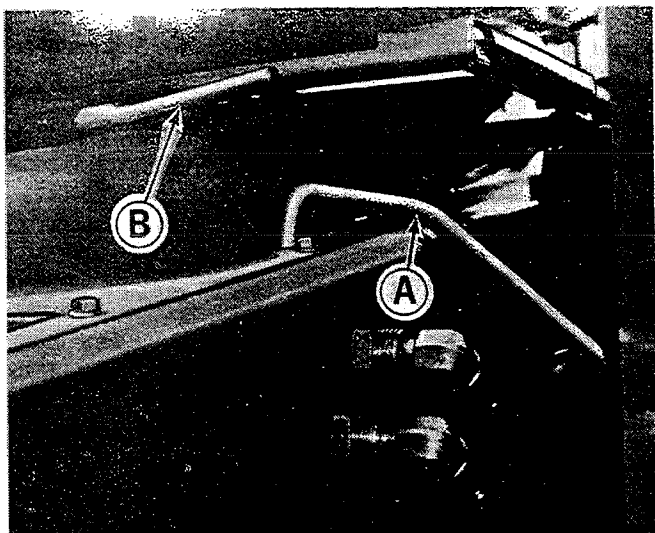

Figure 3. Transmission shift lever and optional seat adjustment as seen from above tractor seat.
(Figure 3, item A) The 3-speed transmission shift lever is used to select neutral or first, second or third speed range in the gear transmission. The transmission is in **NEUTRAL** when the transmission shift lever is free to slide forward and rearward about 1-1/2 inches. To place the transmission in **FIRST** gear, pull the shift lever forward all the way and then push down. The transmission is in **SECOND** gear when the shift lever is pulled all the way forward and then pulled up. **THIRD** gear is located by pushing the transmission shift lever all the way to the rear and then pushing down. To shift the transmission into or out of any gear, place the hydrostatic transmission control lever in the **NEUTRAL** position. It is not necessary and not advised to disengage the clutch. The clutch pedal should be released (clutch pedal out) to aid in meshing the gears. When shifting from **NEUTRAL** into gear, it may be necessary to move the hydrostatic control lever forward from the **NEUTRAL** position slightly (about 1/4 inch) to rotate the gears in the transmission so they mesh. As a safety precaution it is advisable to have the engine running at a slow idle when shifting the gear transmission. The table below shows the approximate speed ranges which can be obtained in each of the three gears.
**SEAT ADJUSTING LEVER:** (Figure 3, item B) The seat adjusting lever is used to adjust the front to rear position of the spring mounted seat. The seat position can be adjusted while sitting on it by moving the seat adjustment lever to the left and sliding the seat forward or back as desired. The seat can be locked in several positions over the four-inch adjustment range. To lock the seat in position, simply release the adjustment lever. For instructions on adjusting the position of the standard seat, see the Adjustments section of this manual.